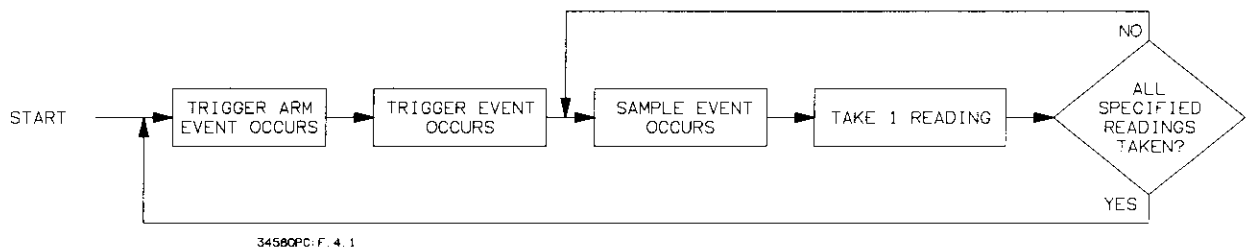

Figure 4-1. Triggering Hierarchy
Before the multimeter will take readings, three separate events must occur in the proper order. These events are (1) the trigger arm event, (2) the trigger event, and (3) the sample event. Sub-sampling (discussed in Chapter 5) and multiple trigger arming (discussed in this chapter) are the only exceptions to this triggering hierarchy. As shown in Figure 4-1, when all three events have occurred in the order listed, the multimeter begins to make the specified reading(s). In the power-on state, the multimeter is configured so that it makes readings automatically; that is, all three events are set to AUTO. For most applications, you will need to use only one or two of these events and leave the other event(s) set to AUTO. This section describes the various events that can be used to satisfy the trigger arm, trigger, and sample event requirements and contains examples showing how to use these events.